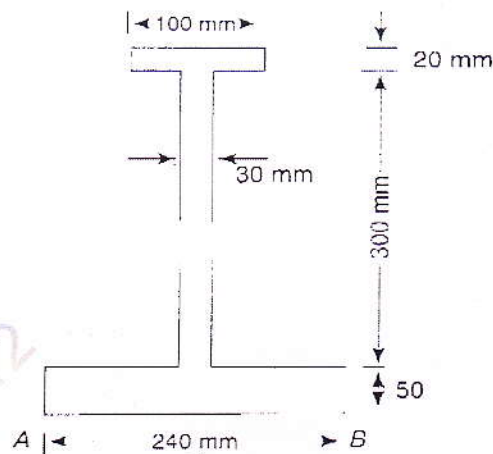

Fig. 3
- Q3) The tension flange of a cast iron I section beam is 240 mm wide and 50 mm deep, the compression flange is 100 mm wide and 20 mm deep whereas web is $300 \text{ mm} \times 30 \text{ mm}$ as shown in fig. 3. Find the load per meter run which can be carried over a 4m span by a simply supported beam, if the maximum permissible stresses are 90 N/mm^2 in compression and 24 N/mm^2 in tension. [16]